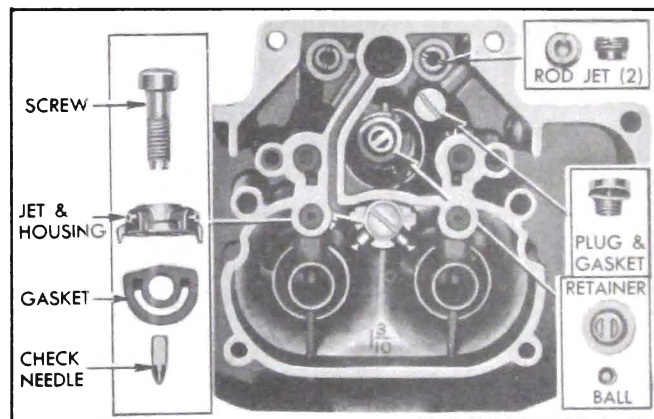

Figure 3-30—Parts in Main Body
10. Remove vacuum piston spring, pump plunger assembly and lower pump spring from cylinders in main body. See figure 3-30.
11. Remove screw, jet and housing assembly, gasket, and pump check needle from main body. See figure 3-30.
12. Remove both metering rod jets, and the pump passage plug and gasket from bottom of bowl in main body. See figure 3-30.
13. Use a thin screw driver or a stiff wire having a short hook on one end to remove the pump intake check ball retainer. See figure 3-30.
jets. Jets must be tightened firmly but not so tightly as to cause distortion. See figure 3-30.
11. Place pump check needle, *tapered end downward*, in passage in main body, then install gasket, pump jet and housing assembly, and attaching screw. See figure 3-30.